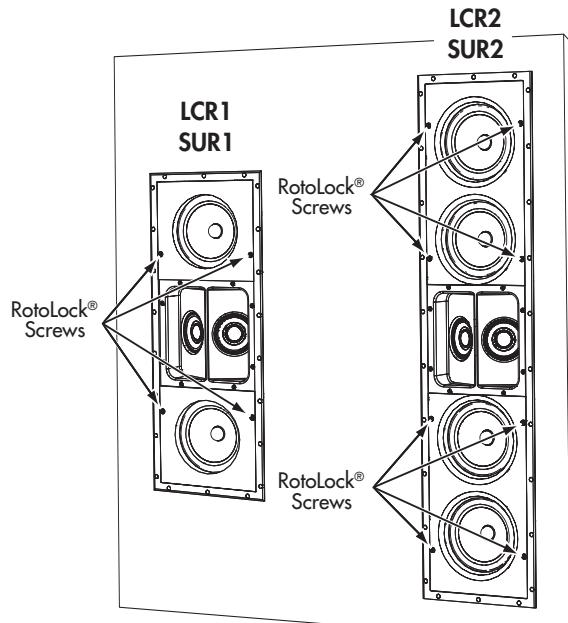

FIGURE 6: TIGHTENING THE ROTOLOCK® SCREWS
- Using the supplied allen wrench, tighten the screws on the front of the speaker baffle. (The LCR1 and SUR1 each have four screws; the LCR2 and SUR2 each have 8 screws — see *Figure 6*, next column.) The RotoLock clamps will automatically rotate into position and begin clamping the speaker.